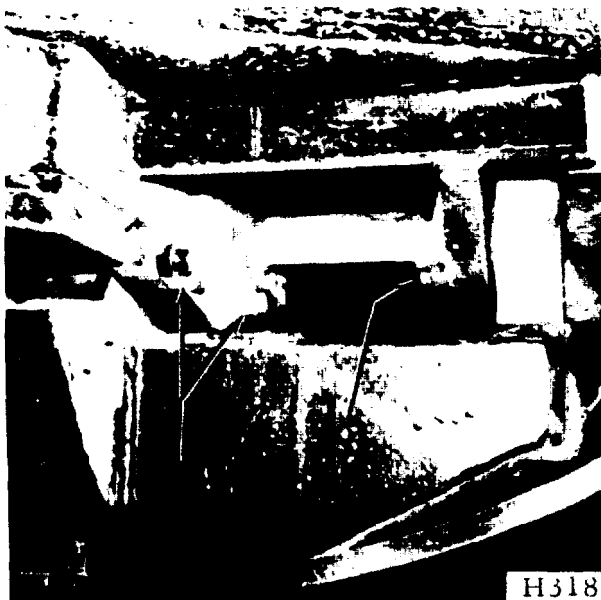

**FIGURE 9-73.**
e. Using a tube with the same outer diameter as the bushings and a hydraulic jack, drive the bushings from the two (2) vertical pin holes (see figures 9-73 and 9-74).